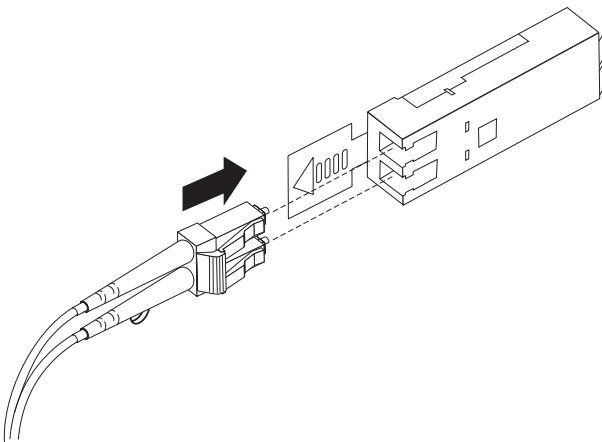

Figure 32. Inserting an LC-LC Fibre Channel cable into an SFP module
4. Carefully insert this end of the LC-LC cable into an SFP module that is installed in the DCS3700. The cable connector is keyed to ensure it is inserted into the SFP module correctly. Holding the connector, push in the cable until it clicks into place, as shown in Figure 32.